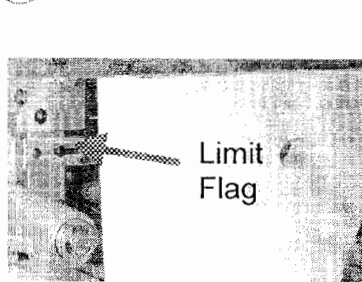

Figure 9
10. Remove the Back Up Limit Flag and Screws. (see Figure 9)